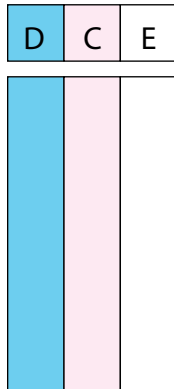

Fig. 2
2. Cut the (2) DCE strip sets into (40) $1\frac{1}{2}$ " x $3\frac{1}{2}$ " DCE strips (Fig. 2).